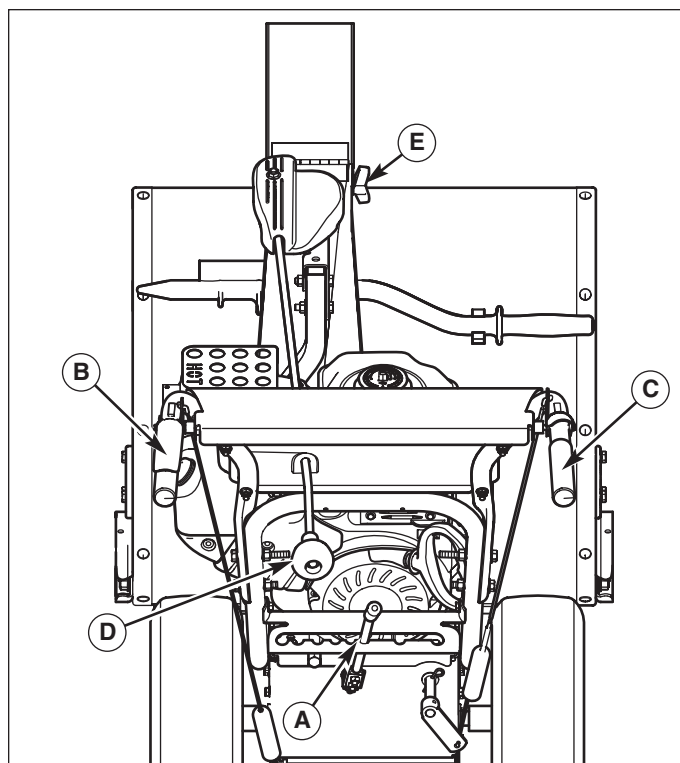

Figure 2. Controls (from operator's position)
2. Check the traction drive control (B, Figure 2). Snowthrower motion should stop when the control is released.
3. Check the auger control (C). Auger movement should stop when the control is released.
4. Check the manual chute direction control (D) for proper operation. The discharge chute should rotate freely in both directions.
5. Check the deflector for proper operation. The deflector should pivot freely up and down when the chute deflector knob (E) is loosened.
6. Check the speed selector (A) for smooth operation. The control must move freely into each speed position gate and remain in position when released.